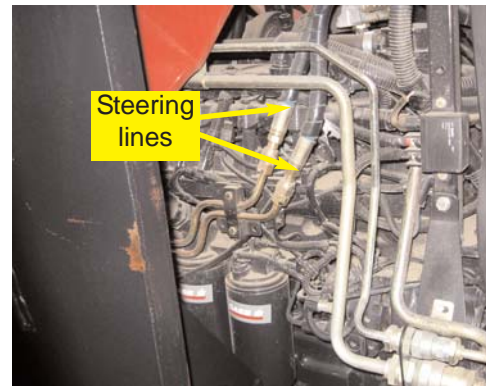

Figure 6b. Steering lines.
- d. Locate the two steering lines on the left side of the engine. (Figure 6b.)